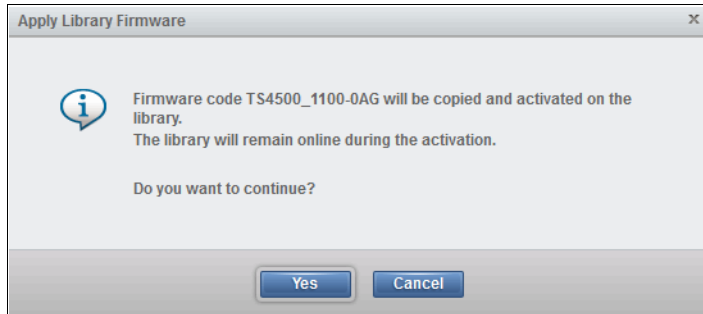

Figure 4-142 Firmware update confirmation
- The Apply Library Firmware window opens. Click **Yes** to continue, as shown in Figure 4-142.